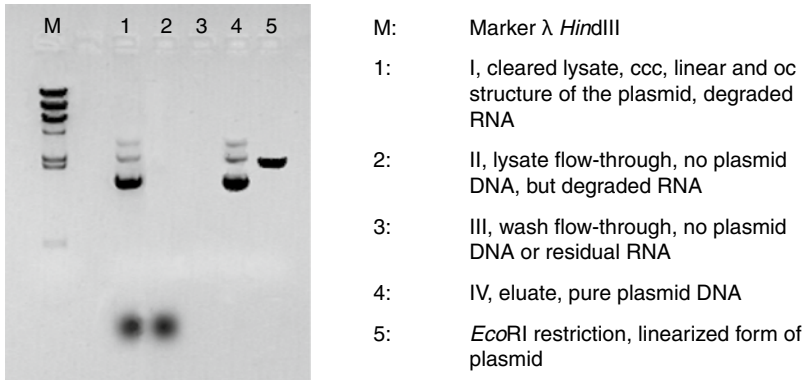

Figure 6 Exemplary analytical check of NucleoBond® Xtra Midi purification samples
The exemplary gel picture (Figure 6) will help you to address the specific questions outlined in the following section more quickly and efficiently.
- Check plasmid content in the cleared lysate (see Figure 6). Use colonies from fresh plates for inoculation and add fresh selective antibiotic to plates and media.
- Too much cell mass was used. Refer to section 4.5–4.8 regarding recommended culture volumes and lysis buffer volumes. Check plasmid content in the cleared lysate (see Figure 6).
- Check plasmid content in the wash fractions (see Figure 6). Keep all buffers tightly closed. Check and adjust pH of Buffer EQU (pH 6.5), WASH (pH 7.0), and ELU (pH 9.0) with HCl or NaOH if necessary.
RNA contamination of plasmid DNA	<p data-bbox="300 209 600 228">RNase digestion was inefficient</p> <ul data-bbox="300 248 972 300" style="list-style-type: none"> <li data-bbox="300 248 972 300">• RNase was not added to Buffer RES or stored improperly. Add new RNase to Buffer RES. See section 8.2 for ordering information. <p data-bbox="300 317 759 336">pH or salt concentration of wash buffer is too low</p> <ul data-bbox="300 357 972 496" style="list-style-type: none"> <li data-bbox="300 357 972 432">• Check RNA content in the wash fractions (see Figure 6). Keep all buffers tightly closed. Check pH of Buffer EQU (pH 6.5) and WASH (pH 7.0) and adjust with HCl or NaOH if necessary. <li data-bbox="300 450 972 496">• Increase wash buffer stringency by adjusting pH of Buffer WASH to 7.5.